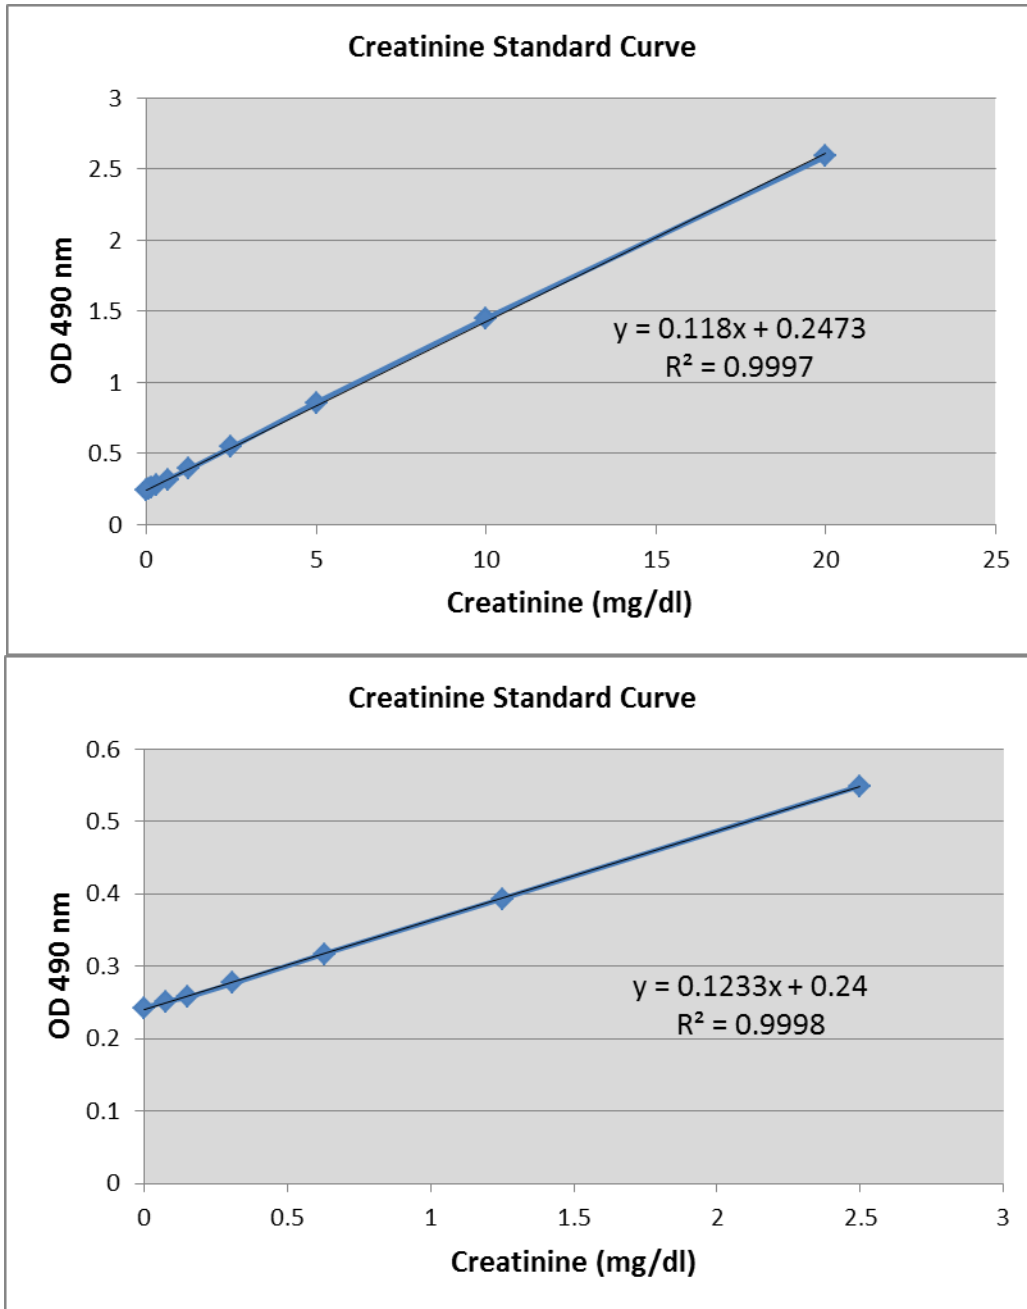

Figure 2: Creatinine Assay Standard Curve.
5. Use the equation obtained from the linear regression of the standard curve to calculate the creatinine concentration of samples. Remember to account for all dilution factors. See Figure 2 for a typical standard curve equation.